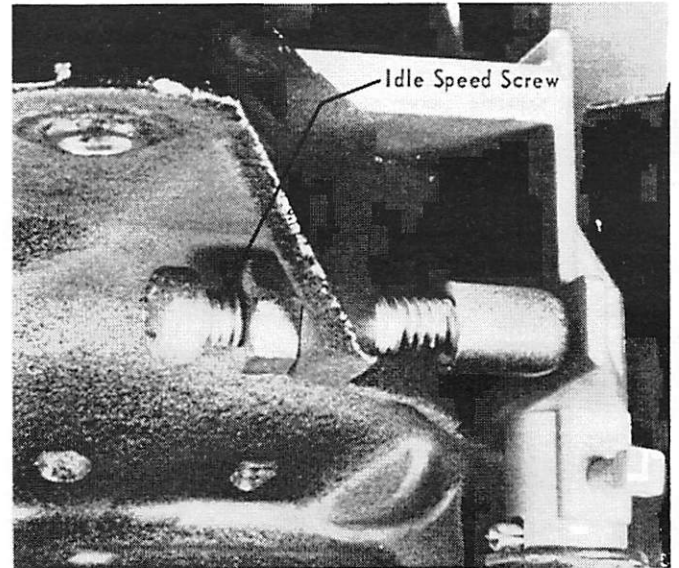

Figure 10. Idle Speed Screw
10. Adjust idle speed screw so that motor idles at approximately 500 RPM in forward gear. (Figure 10)